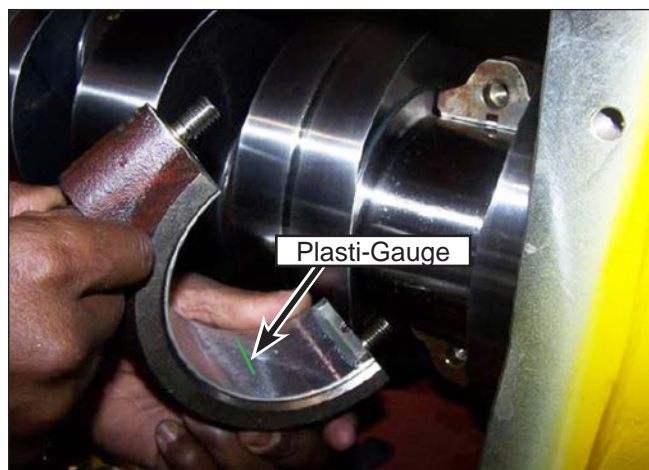

Figure 113: Plasti-Gauge Installation.
2. Install a small strip of plasti-gauge onto the end cap bearing (Figure 113).